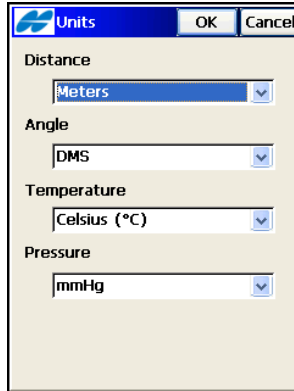

Figure 2-6. Units
- **Next** – opens the *Units* screen (Figure 2-6 on page 2-6).
On the *Units* screen, the default units that are used in the job display. Set the following measurement units (Figure 2-6).